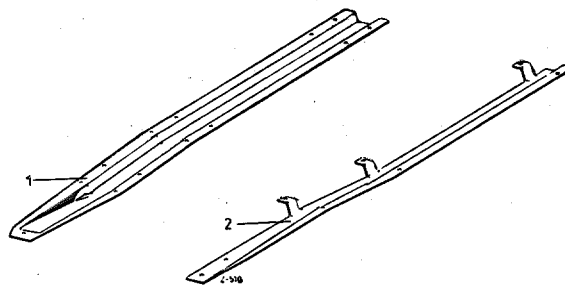

Fig. 42 — 2/2
Thoroughly clean the protective rail before reinstalling. If an excessive accumulation of dirt suggests that the car is being driven under difficult conditions the previous closed type protective rail (1) should be replaced by the new open type (2) (Fig. 42 — 2/2).